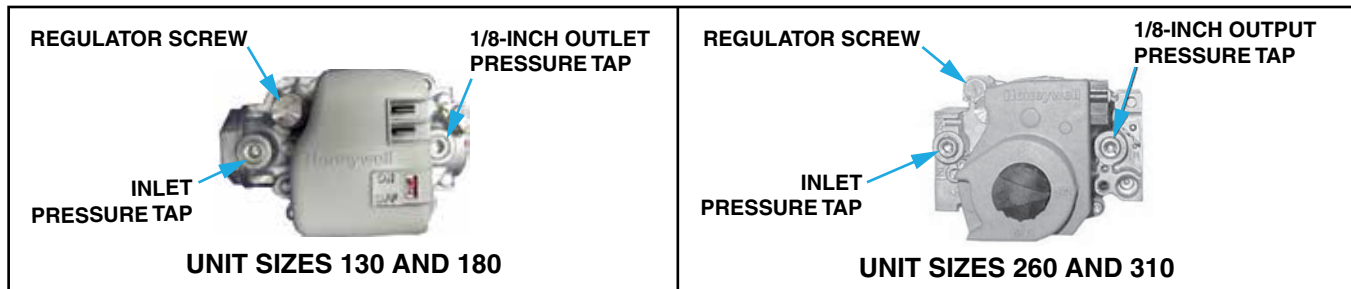

Figure 28. Gas Valves
2. Connect manometer to 1/8-inch output pressure tap on valve (see Figure 28).
- If manometer reading does not indicate that valve outlet pressure is in accordance with Table 23, remove cap from regulator screw(s) (see Figure 28) and adjust pressure by turning regulator screw IN (clockwise) to increase pressure or OUT (counterclockwise) to decrease pressure.
4. Connect manometer to 1/8-inch output pressure tap on valve (see Figure 28).
6. Remove cap from regulator screw (see Figure 28) and adjust pressure in accordance with Table 23 by turning regulator screw IN (clockwise) to increase pressure or OUT (counterclockwise) to decrease pressure.
10. Connect manometer to inlet pressure tap (see Figure 28). While heater is operating, measure inlet pressure, which should be between 5 and 13.5 IN WC for natural gas or between 10 and 13.5 IN WC for propane.